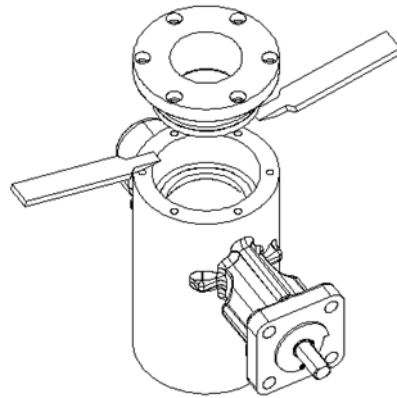

FIGURE 2
3. Remove the end flange using flat tools, or a pipe threaded into the end. (Fig. 2)